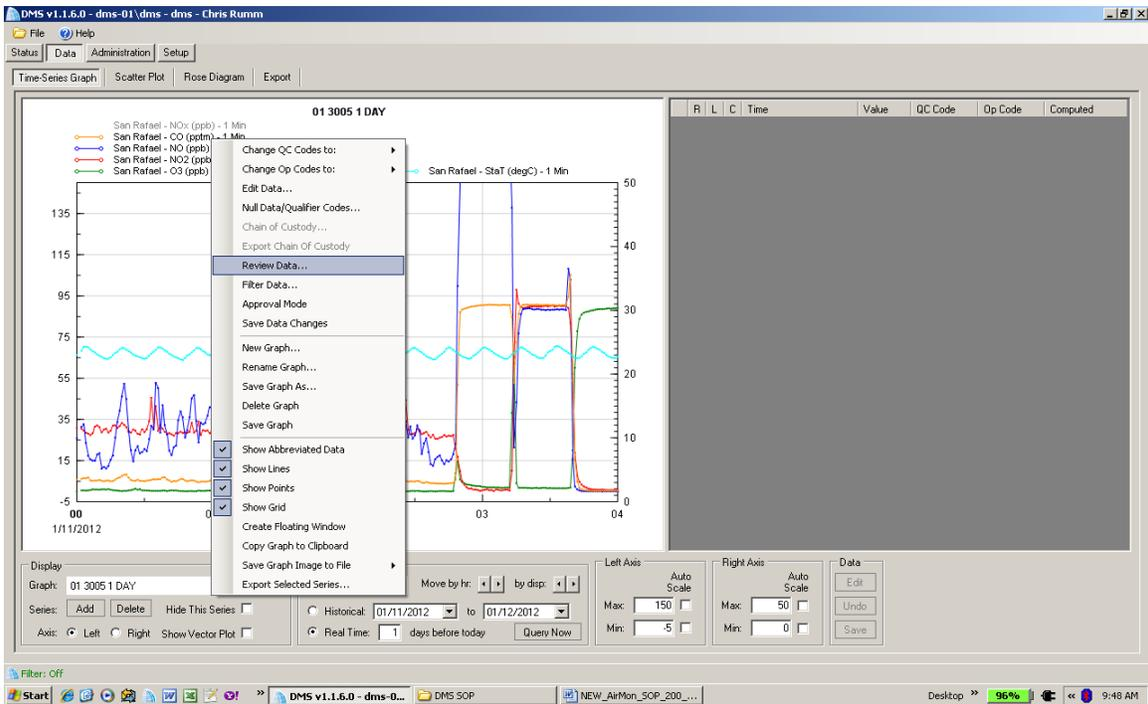

Figure 4: DMS Review Data pull-down menu
- j. Qualitatively cross check diurnal patterns at each monitoring site between pollutants and with other local pollutant data. For example: carbon monoxide (CO), nitric oxide (NO), and non-methane hydrocarbons (NMHC) concentrations usually increase and decrease together; NO and ozone (O₃) cannot coexist at high concentrations; ozone concentrations are generally low overnight and peak in the early to mid-afternoon hours.
- a. Right click on the graph and select '**Review Data**'. (**NOTE:** Please Figure 4: DMS Review Data pull-down menu)